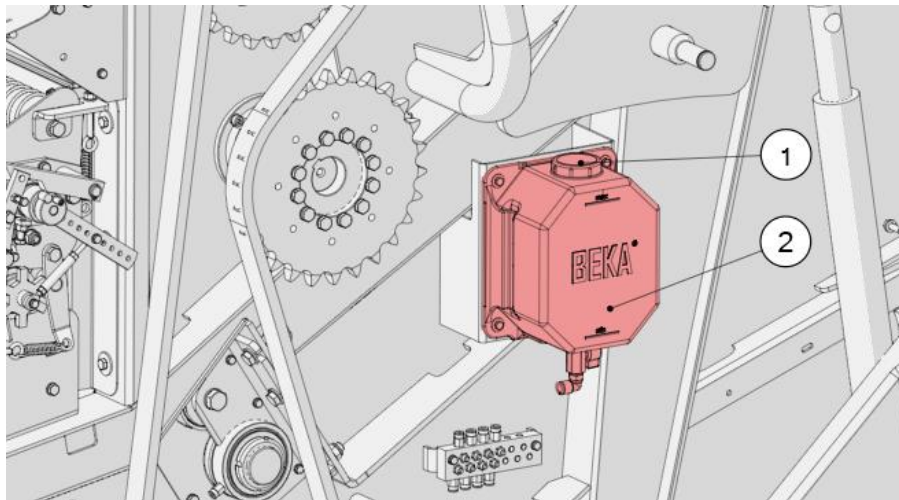

Figure 28. Automatic lubrication for chains
- Clean off any dirt around the machine tank (2) to prevent it from getting inside (Figure 28)
- Twist the cap open (1)
- Replace the plug (1)